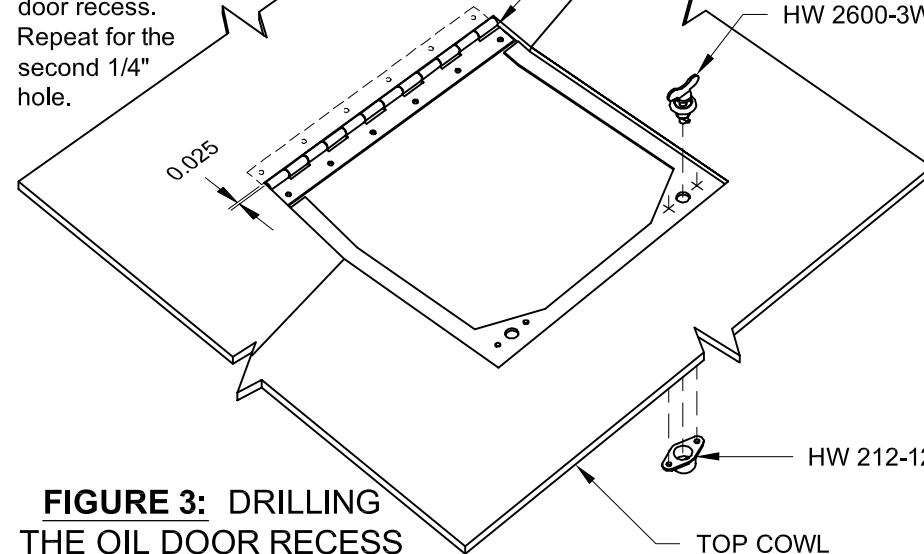

FIGURE 3: DRILLING THE OIL DOOR RECESS
Step 3: Locate the COWL-10-02 Oil Door Hinge on the inside of the top cowl, as shown in Figure 3, with a 0.025" gap between the trimmed edge of the top cowl and the oil door hinge eyelets. Match-Drill #40 the holes of the oil door hinge into the top cowl. Cleco while drilling.
Step 4: Center an HW 212-12 camlock receptacle on one of the 1/4" holes in the oil door recess using an HW 2600-3W camlock fastener. Align the camlock fastener in the direction of the airstream, as shown in Figure 3, then match-drill #40 the two camlock receptacle attachment rivet holes into the oil door recess.